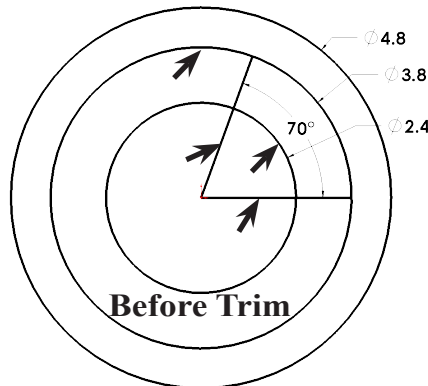
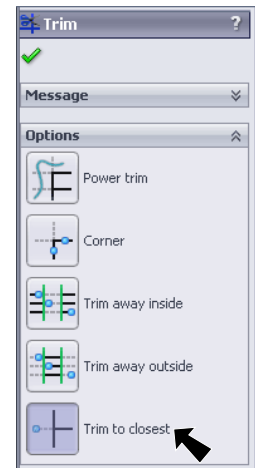
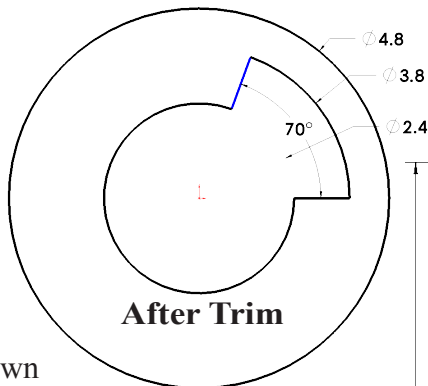

Fig. 5
Fig. 4
Fig. 6
Step 2. In the Property Manger select **Trim to closest** , Fig. 4. Click entities to trim, Fig. 5. Results shown in Fig. 6.